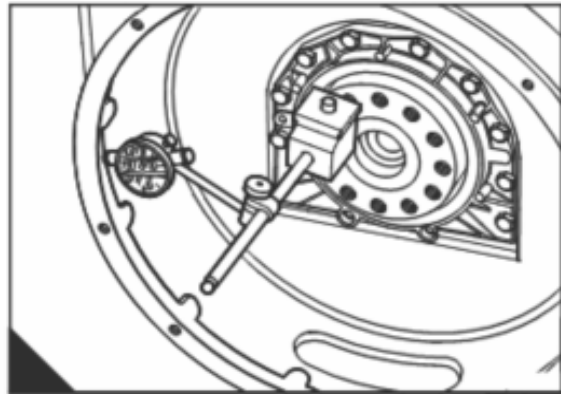

Fig. M3
3. Check the housing concentricity with a dial test indicator (Fig.M3). The run-out limit is given in the data and dimensions. If any adjustment is necessary, it must be made on the housing and the concentricity checked again.